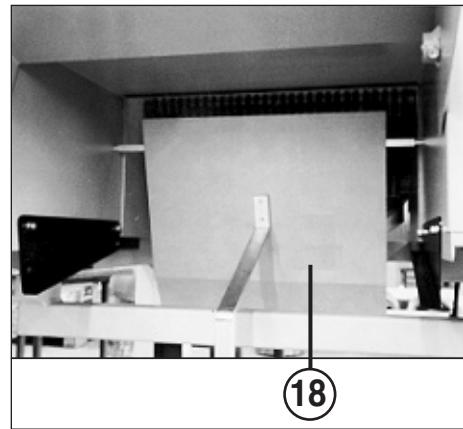

Fig. 3
- is the **locking switch (2)** unlocked?
- is the **main switch (1)** turned on?
- is the **emergency-stop rail (14)** released? Pull out the red rail on the feed table.
- is the **shredder bin (23)** fully docked?
- is the **shredder bin (23)** full? Empty the shredder bin.
- is the **switch flap (18)** (fig. 3) for the „shredder bin full“ indicator easy to move? It may be necessary to free the switch.